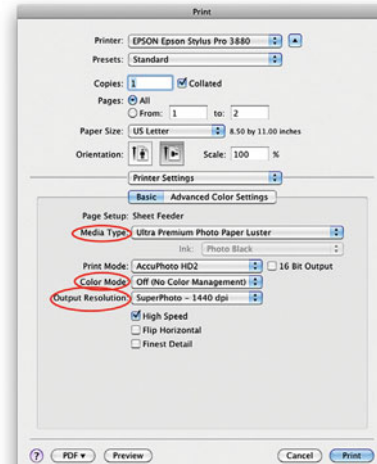

FIGURE 8.9 Printer Settings section of the Epson 3880 printer driver with the three settings to adjust when optimizing the driver circled.
4. *Move to the Printer Settings section of the driver*. In this section you will check and set the **Media Type**, **Color Mode**, **16-Bit Printing** and **Output Resolution**, as shown in Figure 8.9.